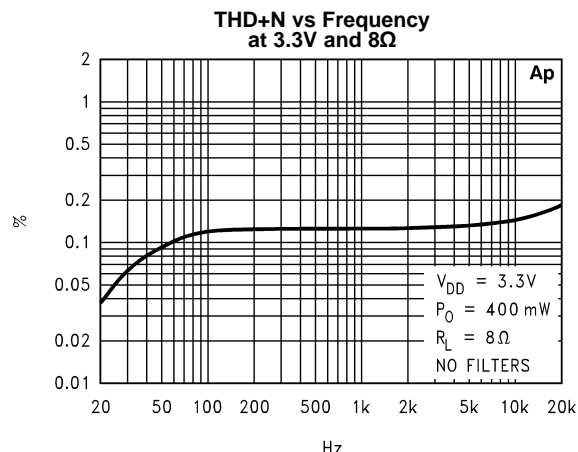

Figure 4.
- (1) All voltages are measured with respect to the ground pin, unless otherwise specified.
- (2) *Absolute Maximum Ratings* indicate limits beyond which damage to the device may occur. *Operating Ratings* indicate conditions for which the device is functional, but do not ensure specific performance limits. *Electrical Characteristics* state DC and AC electrical specifications under particular test conditions which ensure specific performance limits. This assumes that the device is within the Operating Ratings. Specifications are not ensured for parameters where no limit is given, however, the typical value is a good indication of device performance.
- (3) Low Voltage Circuit - See Fig. 4
- (4) Shutdown current is measured in a Normal Room Environment. Exposure to direct sunlight will increase I_{SD} by a maximum of $2\mu A$.
- (5) Typicals are measured at $25^\circ C$ and represent the parametric norm.
- (6) Limits are ensured to Texas Instruments's AOQL (Average Outgoing Quality Level).
The LM4877 will function at voltages below 3 volts but this mode of operation requires the addition of a 1kΩ resistor from each of the differential output pins (pins 8 and 4) directly to ground. The addition of the pair of 1kΩ resistors (R4 & R5) assures stable operation below 3 Volt V_{DD} operation. The addition of the two resistors will however increase the idle current by as much as 5mA. This is because at 0v input both of the outputs of the LM4877's 2 internal opamps go to 1/2 V_{DD} (2.5 volts for a 5v power supply), causing current to flow through the 1K resistors from output to ground. See fig 4.
Jumper options have been included on the reference design, Fig. 4, to accommodate the low voltage application. J2 & J3 connect R4 and R5 to the outputs.